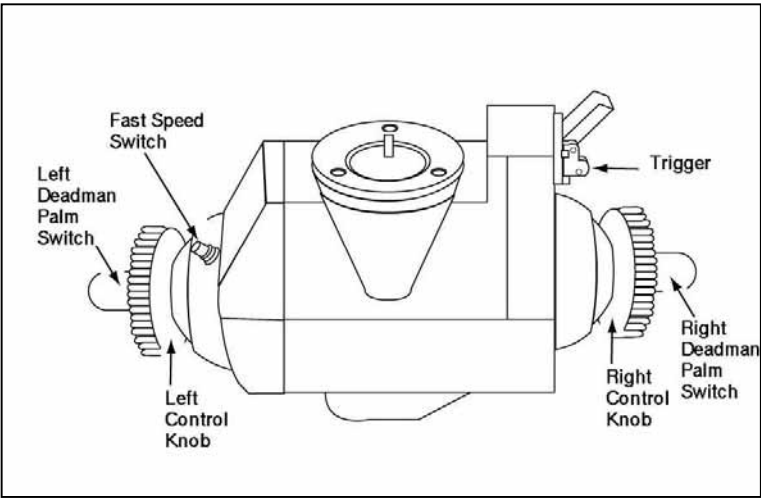

Figure 4-2-7: Hand Controller
25. **Hand Controller.** The hand controller (see Figure 4-2-7) controls the elevation and azimuth movements of the turret and contains a left and right control knob, a fast speed switch, trigger with safety cover and two deadman palm switches. The traversing speed is 35 mils per second on normal speed and 157 mils per second on maximum speed.